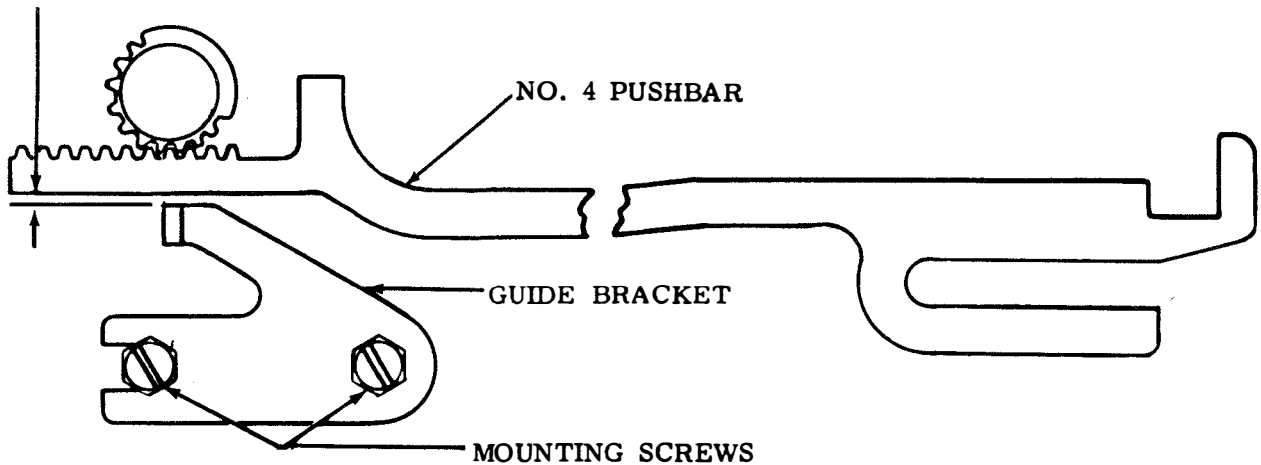

Figure 6-287. Pushbar Guide Bracket, Front View
(26) Pushbar Guide Bracket. Adjust as follows:
- Figure 6-287.
- (a) Refer to Figure 6-287.